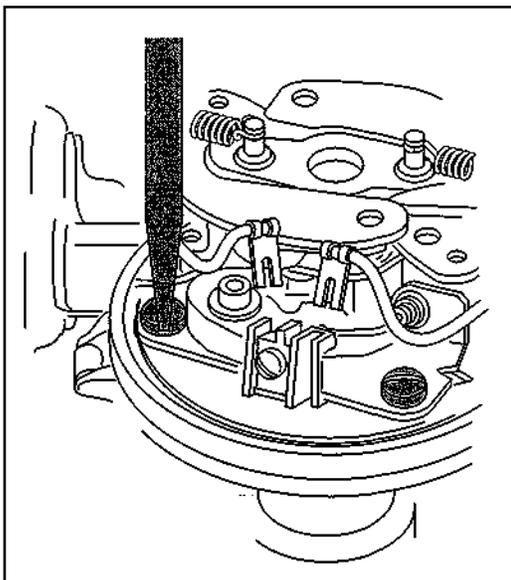

Figure 12-30:
2. Remove the old points by removing the screw or screws that hold them in place (see Figure 12-30).